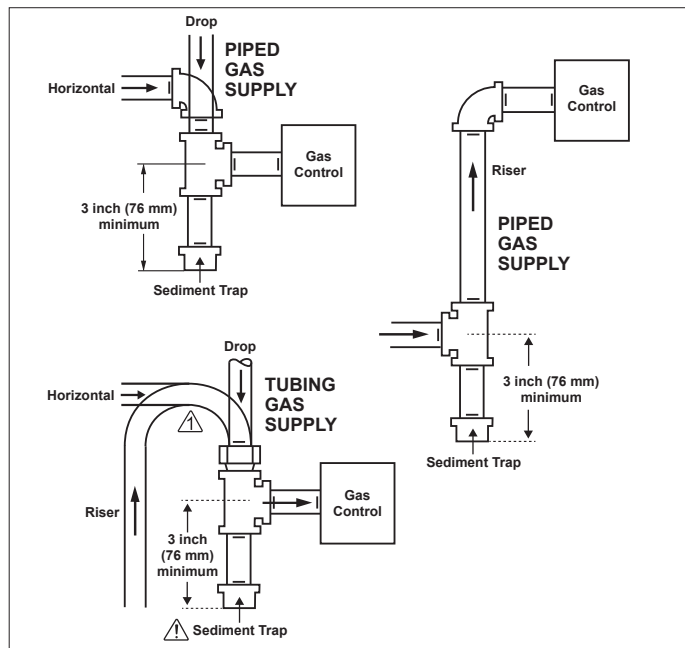

Figure 8: Sediment Trap (where required)
2. Install the filter or sediment trap (where required) in the gas supply line to prevent contamination of the downstream control (see figure 8, page 5).